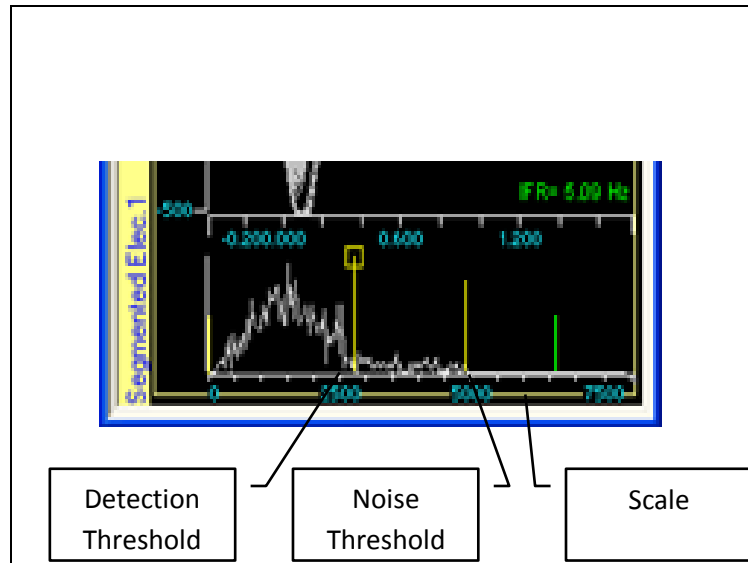

Figure 83: Template Histogram
The template threshold is defined using the template histogram (*Figure 83*), which displays a distribution of spike variability.
Only that template spikes appear in the graph; below it, the graph the template histogram appears (see *Figure 83*).
2. Only the present template spikes appear in the graph. Below it, the template histogram appears (see *Figure 83*).